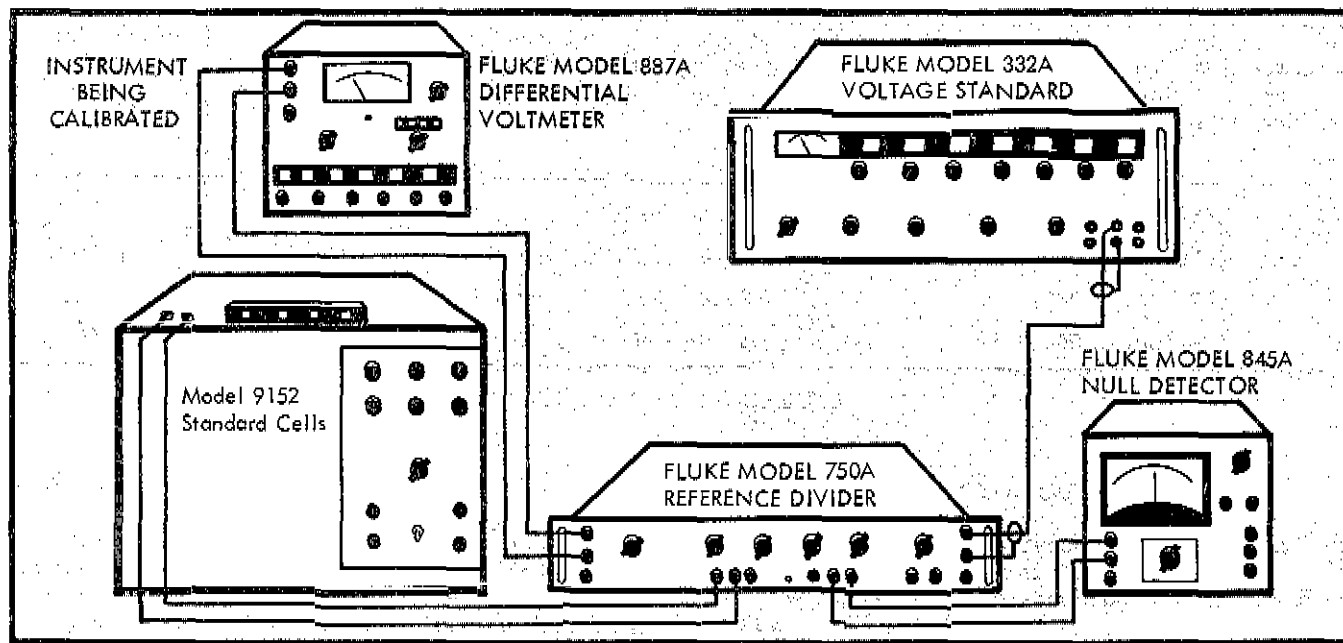

Figure 4-3. EQUIPMENT CONNECTIONS FOR DC CALIBRATION
- a. Connect equipment as shown in Figure 4-3 and adjust the equipment to provide dc voltages of 1, 10, 100, and 1000 volts as outlined in paragraph 4-43.